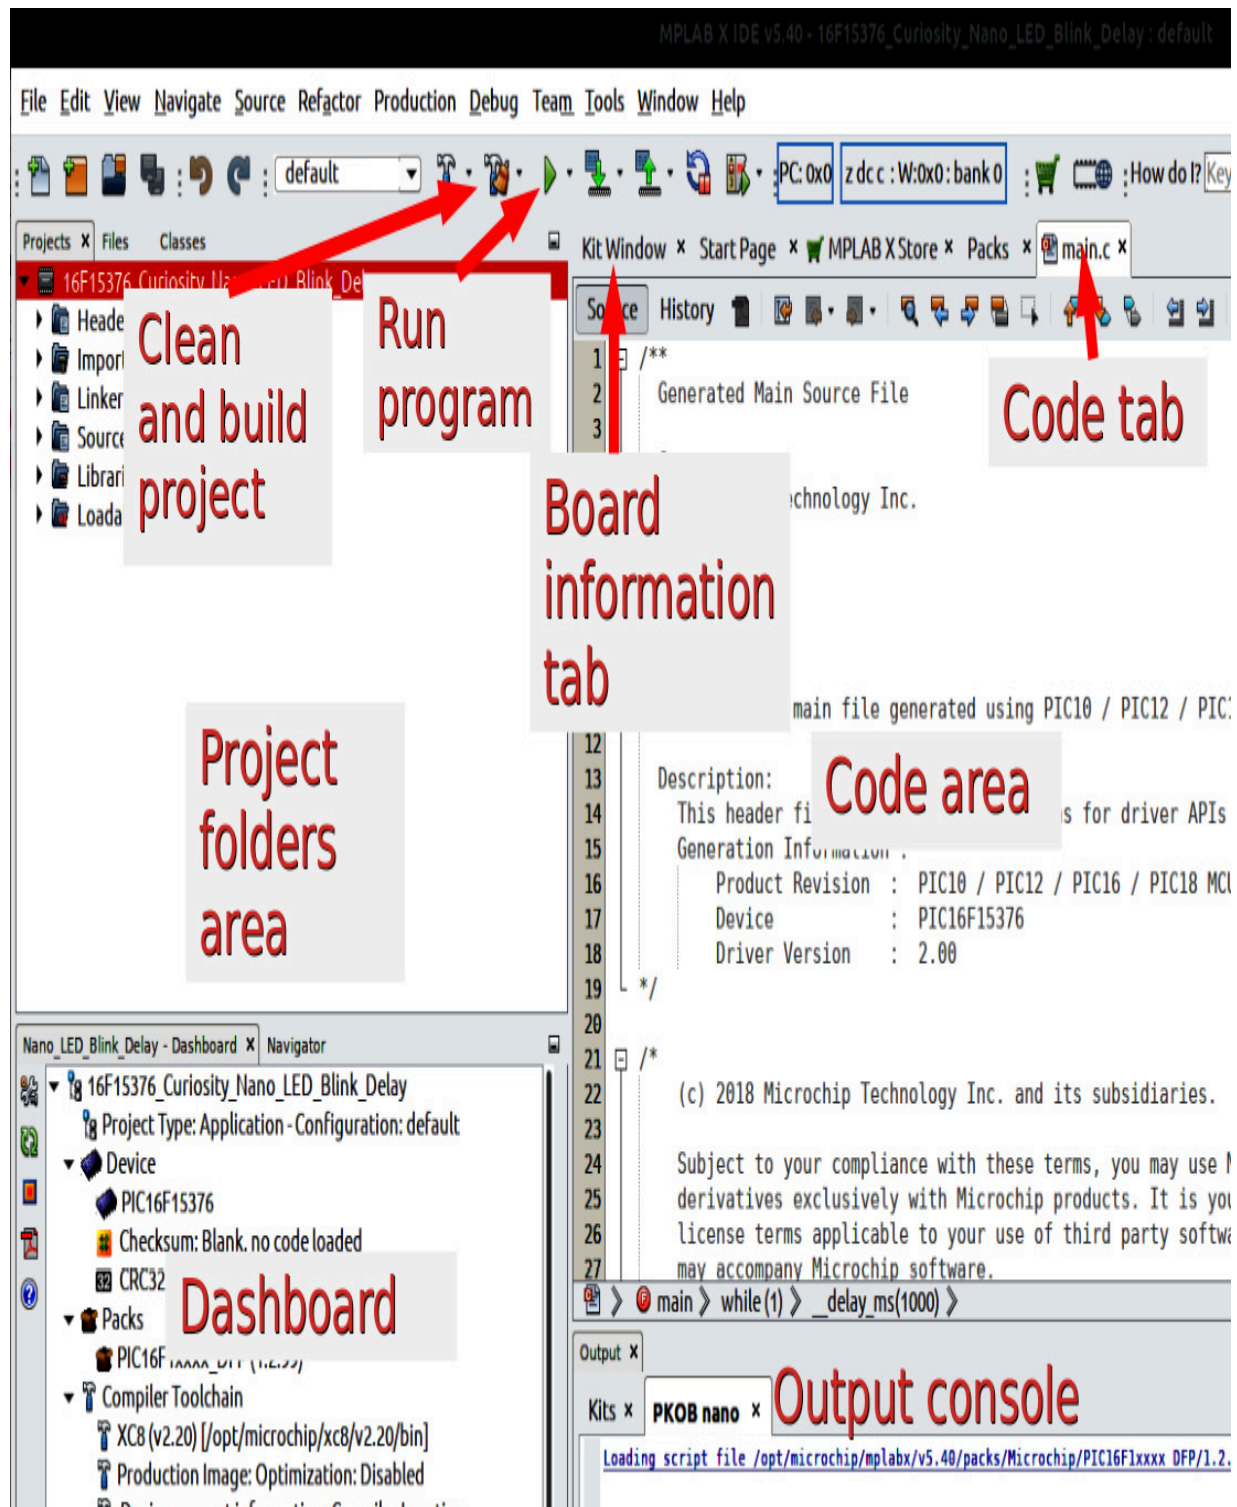

Figure 1.8 – MPLAB X IDE's main parts
*Figure 1.8* is a screenshot of the MPLAB X IDE:
The main parts described in *Figure 1.8* include the text editor (code area), which will be used in other chapters of this book. One of the most important buttons in the IDE is the **Run** button, which compiles, runs, and uploads the binary (compiled) file to the Curiosity Nano board.